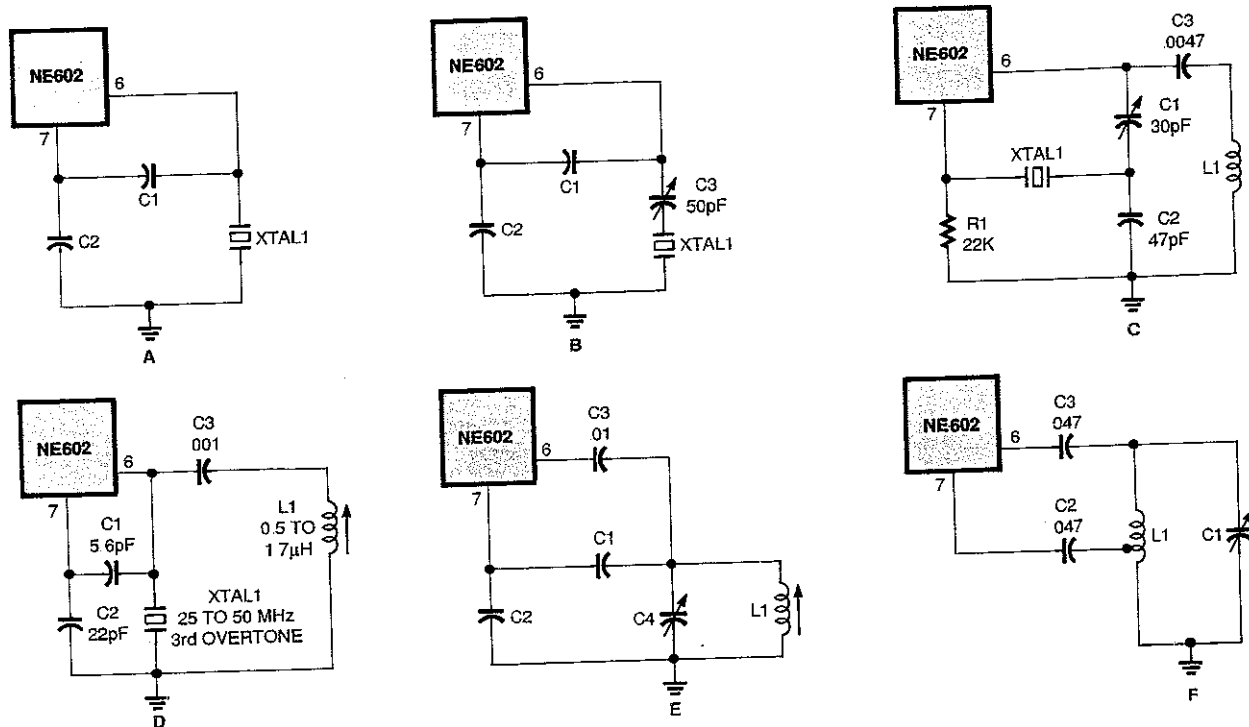

Fig 7 The local oscillator for the NE602 can take the form of either a crystal-controlled (a through d) or a resonant-tank circuit (e and f)
Figure 7-a shows a basic Colpitts crystal oscillator. It will operate with fundamental-mode crystals on frequencies up to about 20 MHz. The feedback network consists of a capacitor voltage divider (C1/C2). The values of those capacitors are critical, and should be approximately:
A problem with the circuit of Fig. 7-a is that the crystal frequency is not controllable except by replacing the crystal. The actual operating frequency of any crystal depends, in part, on the circuit capacitance seen by the crystal. Most crystals are designed for load capacitances of 20 or 32 pF, but
that can be specified if crystals are being ordered directly from a manufacturer. In Fig. 7-b, a variable or "trimmer" capacitor is placed in series with the crystal in order to set the frequency. The trimmer capacitor can be adjusted to set the oscillator to the desired frequency.
Figures 7-c and 7-d are overtone-mode crystal-oscillator circuits. The circuit in Fig. 7-c is a Butler oscillator. The overtone crystal is connected between the oscillator emitter of the NE602 (pin 7) and a capacitive voltage divider that is connected between the oscillator base (pin 6) and ground. There is also an inductor in the circuit (L1) that must resonate with C1 to the overtone frequency of crystal XTAL1. Figure 7-c can use either 3rd- or 5th-overtone crystals up to about 80 MHz. The circuit in Fig. 7-d is a third-overtone crystal oscillator that works from 25 to about 50 MHz, and is simpler than Fig. 7-c.
A pair of variable-frequency oscillator (VFO) circuits are shown in Fig. 7-e and 7-f. The circuit in Fig. 7-e is a Colpitts-oscillator version, while Fig. 7-f is a Hartley-oscillator version. In both
oscillators, the resonating element is an inductor-capacitor (LC) tuned-resonant circuit. In Fig. 7-e, however, the feedback network is a tapped-capacitor voltage divider, while in Fig. 7-f it is a tap on the resonating inductor. In both cases, a DC-blocking capacitor to pin 6 is needed in order to prevent the oscillator from being DC grounded through the resistance of the inductor.